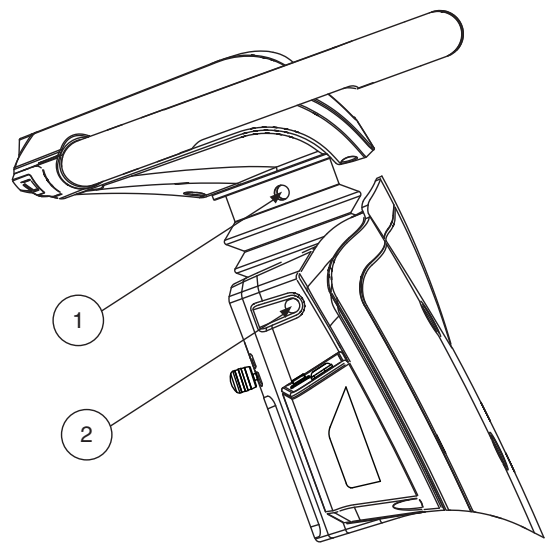

Figure 16. Tiller Height/Console Angle Adjustments
1. Insert a 5 mm hex key into the opening on the side of the tiller and loosen the bolt. See figure 16.
1. Insert a 6 mm hex key into the opening on the side of the tiller and loosen the bolt. See figure 16.